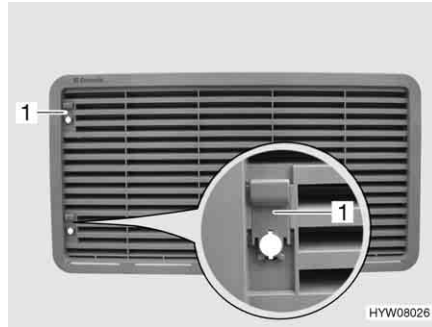

Fig. 169 Refrigerator ventilation grill
- Push sliding trap (Fig. 169,1) upward.